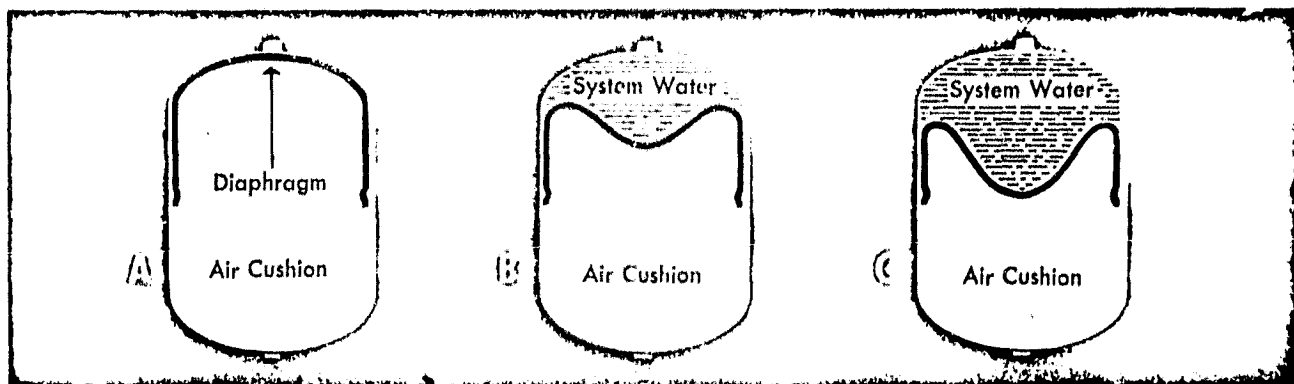

Fig. 3 Extrol tank operation
**The EX-TROL Tank controls expansion of heating system water. See Figure 3**